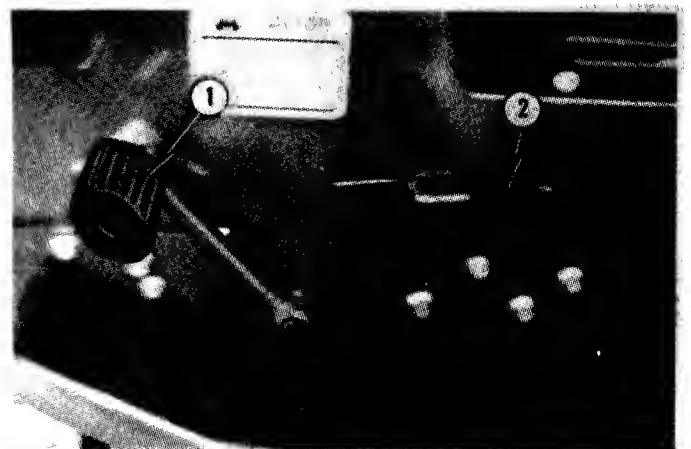

**FIG. 3.15--1600 CLUTCH/BRAKE PEDAL ENGAGED**
1. Depress clutch-brake pedal, No. 1, Fig. 3.15, and engage parking brake lever, No. 2.